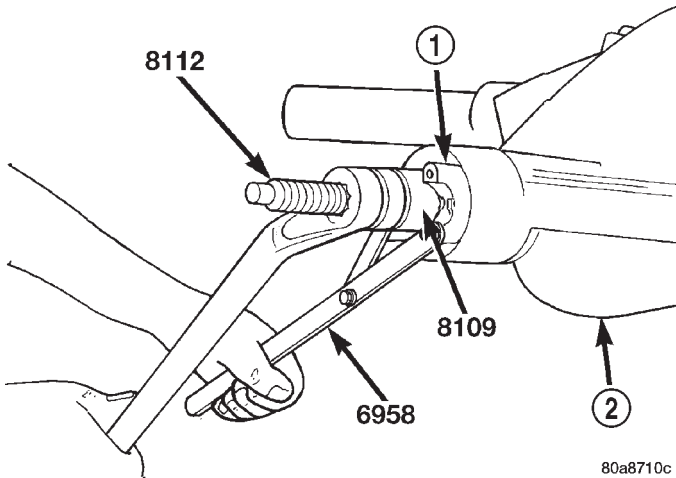

Fig. 45 Pinion Yoke Installation
(10) Install pinion gear in housing.
(11) Install yoke with Installer Screw 8112, Cup 8109, and holder 6958 (Fig. 45).
(12) Install the yoke washer and a new nut on the pinion gear and tighten the pinion nut until there is zero bearing end-play.
(13) Tighten the nut to 271 N·m (200 ft. lbs.).